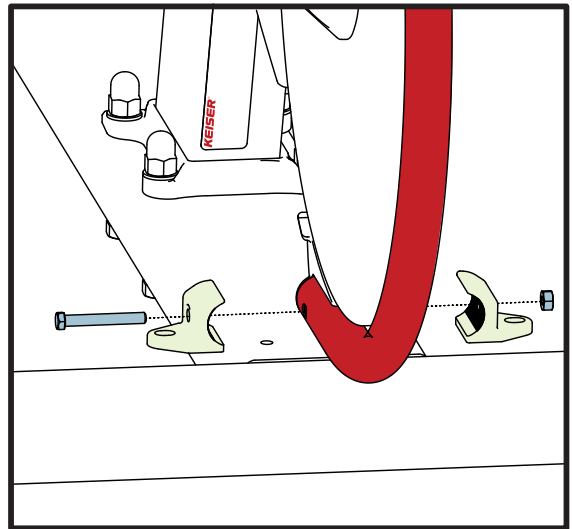

Figure 8. Align, Attach, and Tighten Flywheel Guard Brackets
4. Attach the brackets on the end of the flywheel guard, refer to Figure 8. Use the M6 x 45 hex head screw and nut (supplied). Hand tighten the screw and nut.